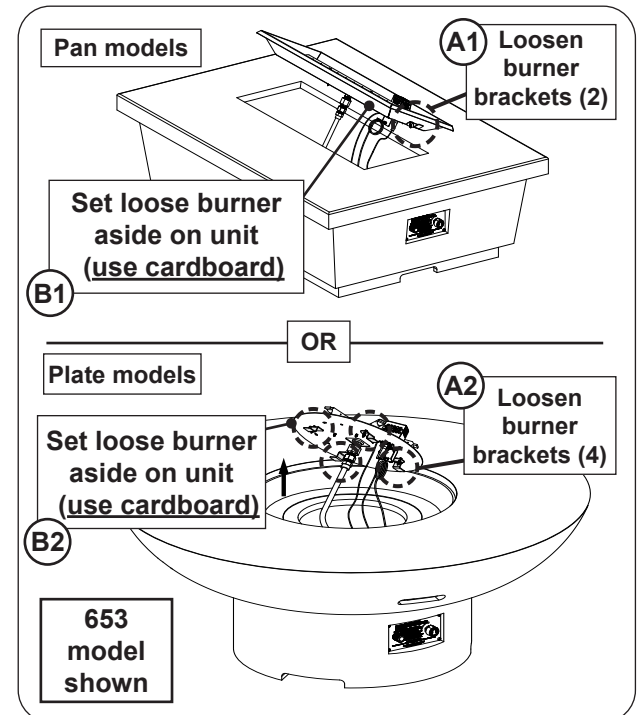

Fig. 29-3 Gain access to interior of unit
3. Use a  $\frac{5}{16}$ " nut driver to loosen the 2-4 screws found on the burner assembly (see Fig. 29-3, A).
4. Carefully lift out the burner just enough to set it off to the side (see Fig. 29-3, B).